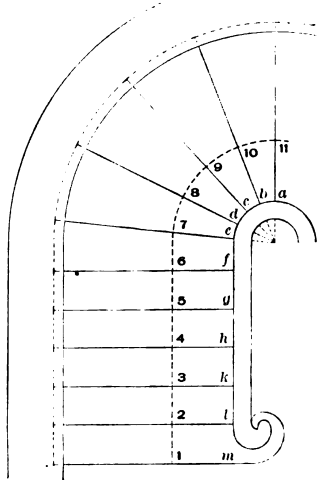
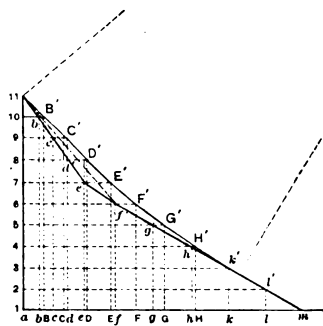
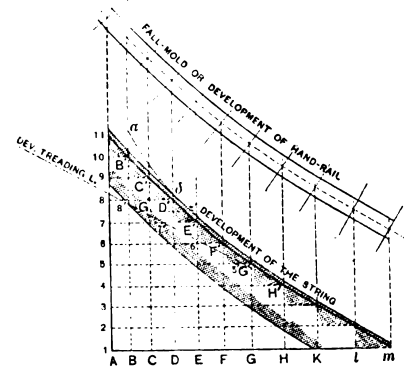

Fig. 211.—Plan of Dancing Stairs.
Fig. 212.—Rectification of the Falling Mold.
Fig. 214.—Falling Mold of the String and Hand Rail.
In Fig. 211 we have stairs formed of one straight flight and a circular end. In the straight part the steps lie at right angles with the string of the stairs; and in the
The direction of each step is determined as follows: Divide the treading lines 1 2 3 . . . 9 10 11 in parts equal to the length of tread adopted according to formula given in thirtieth lesson; then delineate the stairs as in Fig. 211. After this, draw, Fig. 212, the development of the line  $a b c . . . l m$ , Fig. 211, which connects the ends of the steps along the well hole. This line is supposed drawn
Such a staircase is defective both in convenience and appearance. Except on the treading line, where all the treads are equal, the steps suddenly change in width when one passes from the straight to the circular flight. This is positively dangerous for those who use the staircase. If, on the other hand, the steps are housed in a string toward the well hole, as shown in drawing, then this string, instead of following a flowing line, will present unsightly elbows, as shown in Fig. 212, where the line  $a b c d . . . l m$ , the well-hole end of the steps in Fig. 211, is developed, forming the broken line  $11 e' f m$ .
on a vertical cylinder, of which the well-hole  $a b c . . . l m$ , Fig. 211, is the base. To develop this cylinder, the lengths  $a b, b c . . . l m$ , will have to be carried on the line  $a . . . m$ , Fig. 212, and the height of the steps will have to be placed on the vertical line 1 2 3 . . . 11. The points where vertical lines from  $a b c . . . m$  on the ground line meet respectively horizontal lines from the points 11, 10, 9 . . . determine the ends of each step on the development. They are 11,  $b', c', d', e', f', g', h', k, l, m$ .
To find the exact position of the joint *P I*, the safest way is to develop, Fig. 214, the treading line, and from *Q* on the treading line draw a horizontal, *Q' z'* to the development *B' C' D'* of the well-hole line. Then find the position of *z* on the plan, and draw the joint line through *Q z*. For every step the distance of the point *Q* where the joint passes to the point *7* on the riser will be repeated, and the direction of all the joints will be determined, as above. Then it will be easier to draw the enveloping curve, which is required for determining the direction of the normal, as above.
The development, Fig. 214, of the fascia of the string toward the steps is obtained by adding vertically 2 inches above and below the development of the well-hole end of the steps. This development, when wound round a cylinder or base *A, B, C* . . . Fig. 215, will give exact outline of the fascia of the string. Now, the upper and lower surfaces of the string can be formed in several ways, and the results obtained thereby are of the greatest importance for the designing of the balustrading and handrailing of these stairs.
If, for instance, it be intended to use balusters with square dies above and below, the generators of the upper surface of the string must be at right angles with the sides—that is, they must lie in the same direction as the steps in Fig. 211. Then the inside fascia of the string toward the well hole, Fig. 214, follows the same line as the other fascia up to *d*, when it suddenly slants up to *a*, forming an unsightly elbow in *d*. We see, therefore, that when balusters are used in a staircase which presents straight and circular flights, some unsightly feature is unavoidable; either the string presents an ugly elbow, or the bases of the balusters do not fit properly on the string.
It must be borne in mind when designing these moldings that the string, Fig. 214, diminishes in depth from the lower step to the eleventh, and then augments again as it rises on the second branch of the stairs. The moldings should, therefore, be massed either on the upper part or on the lower part of the string, leaving a plain fascia between the upper and the lower edges of the string. French buildings of the period of Louis XIV present numerous examples of "dancing stairs" which may be studied with much profit; but students are recommended to construct several models of such stairs, and find out for themselves, independently of precedents, the best way of decorating them.
*Handrail.*—The construction of the handrail resembles that of the string. For its development a center line is first drawn, as dotted in Fig. 214; then the thickness of the handrail is measured on normals to the center line, so as to allow everywhere an equal space for moldings.